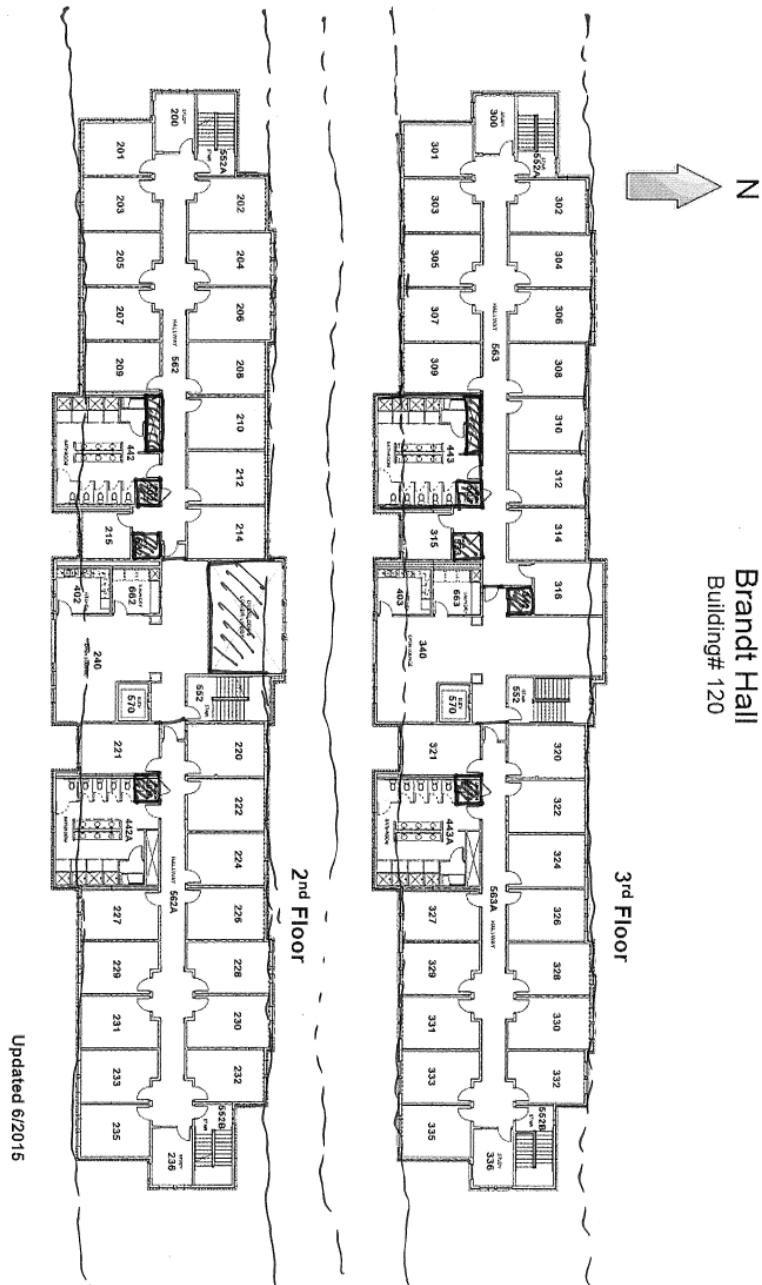

Figure 1. Example floor plan handout
1. Get into groups of four and pick up two printed floor plans (see example in Figure 1), four paper clips, and $N = 30$ beans (*optional: also pick up two plastic cups, two overhead slide pieces, and two dry erase markers*). Choose two group members to be “Recorders” and two to be “Simulators,” one for each printed floor plan.
2. For each floor plan, the Simulator should fold it in a way that lays the rooms flat with raised paper sidewalls. For the example in Figure 1, fold along the dotted lines in an alternating fashion